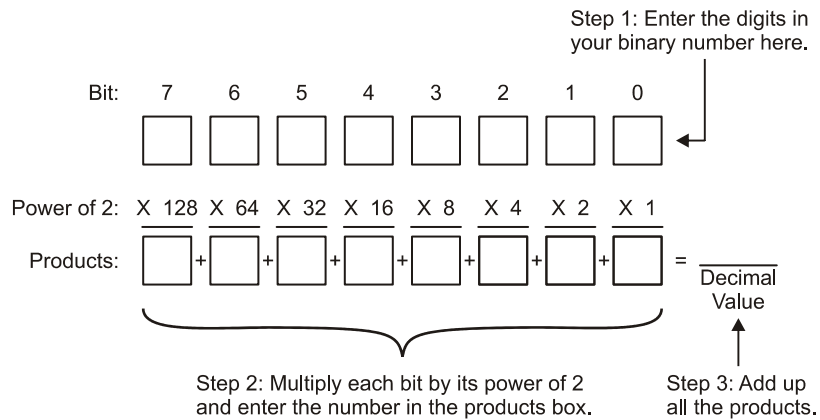

**Figure 2-2**
Figure 2-2 shows how to convert a binary number with up to 8 bits (a byte) to its corresponding decimal value.
- ✓ Hand-calculate the value using the steps shown in Figure 2-2.